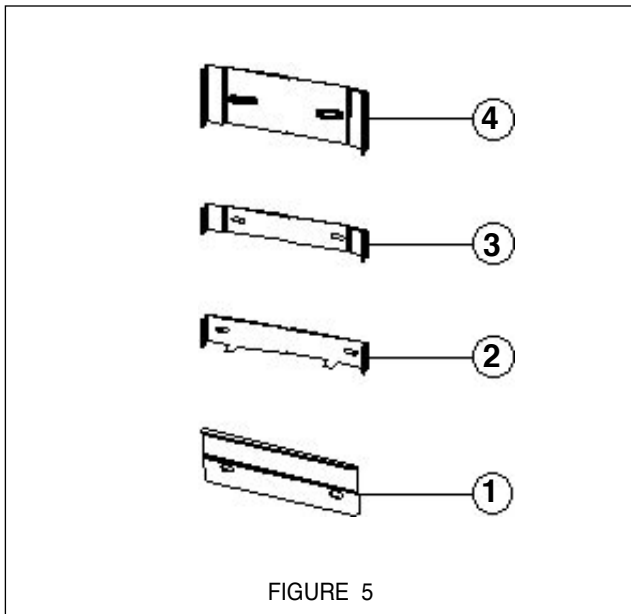
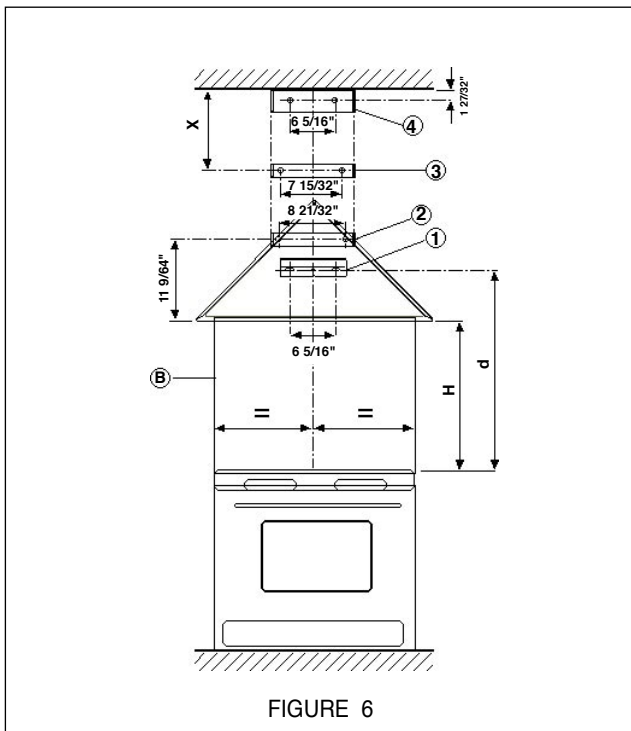

FIGURE 5
FIGURE 6
3. The Egyzia attaches to the wall by an "L" shaped bracket (1 in FIGURES 5 and 6). This bracket has a small, threaded hole in the top and must be mounted flat against the wall with the hole on top and the flange pointing away from the wall.
4. The chimney attaches to the wall by three "U" shaped brackets (2, 3, and 4 in FIGURE 5). FIGURE 6 illustrates
the positioning of the chimney brackets. The largest bracket should be installed about 1/8" away from the ceiling. The middle bracket (bright metal) must be installed with the ends touching the wall and the curves facing outward. The middle bracket must be installed at the bottom point of the upper chimney sleeve. The dimension X on FIGURE 6 should be the length of the upper chimney sleeve.